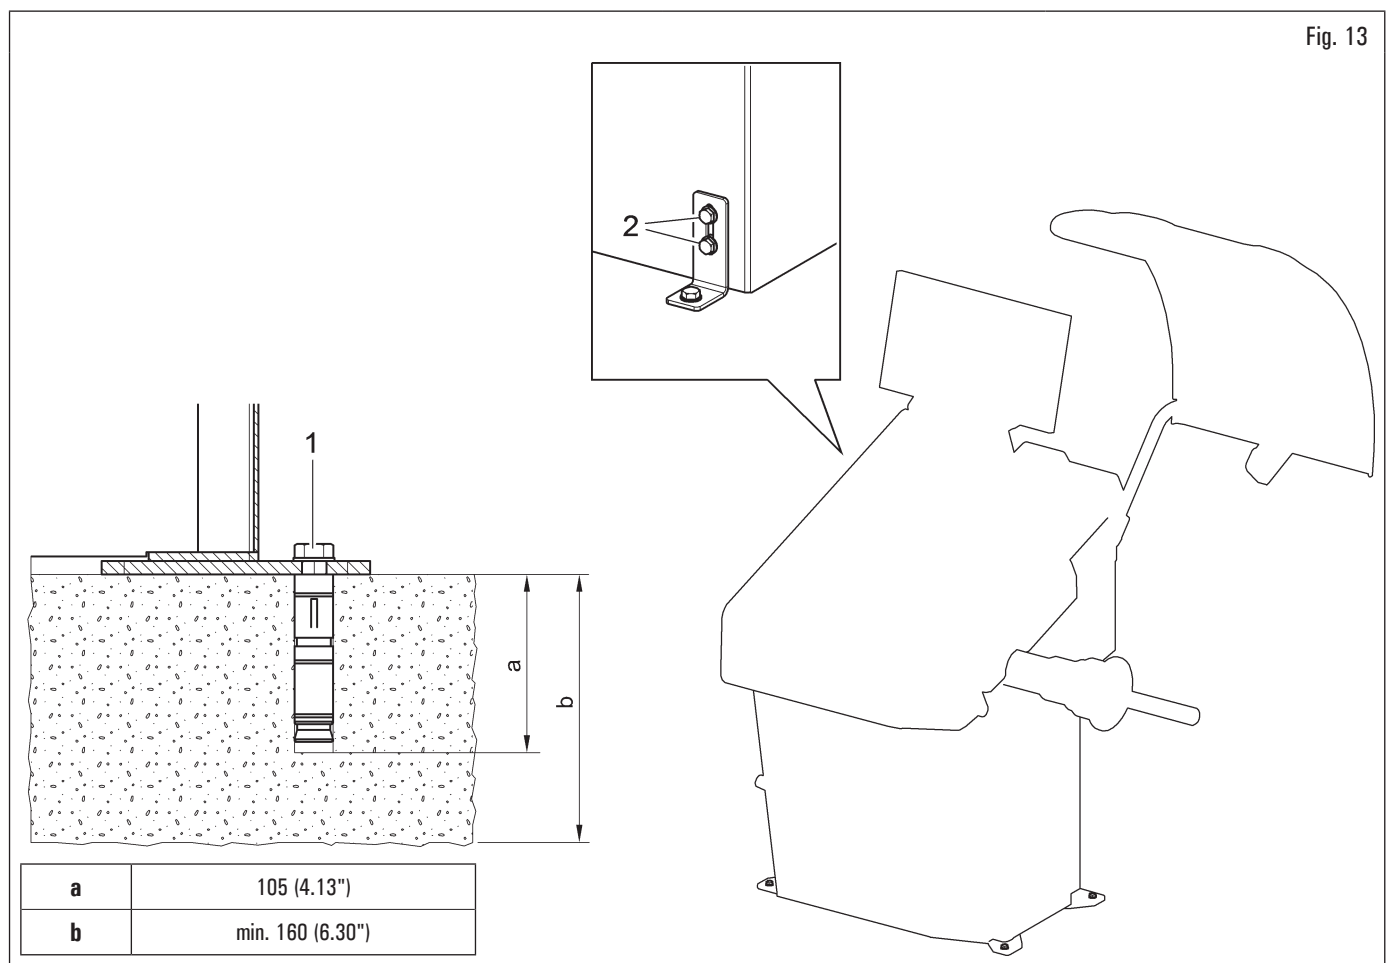

Fig. 13
After checking that the wheel balancer is correctly levelled, tighten the bolts (Fig. 13 ref. 2).
- To secure the equipment to the floor, use anchoring bolts/studs (Fig. 13 ref. 1) with a threaded shank M8 (UNC 5/16) suitable for the floor on which the wheel balancer will be secured and in a number equal to the number of mounting holes on the bottom frame;